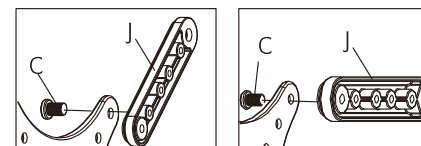

Fig 6
Install the Lengthen staff(J) directly to the plate by using bolts(C) provided. (Fig 6) **Note:** capitulum down.